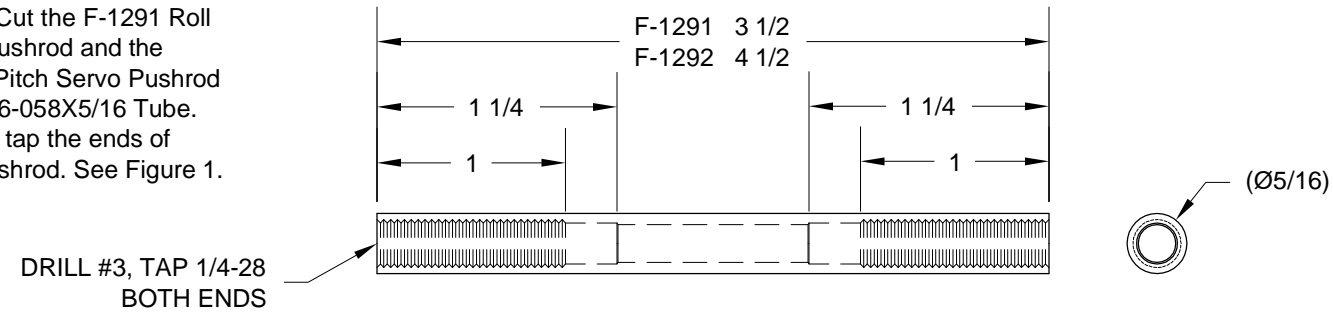

FIGURE 1: MAKING THE PUSHROD TUBES
Step 1: Cut the F-1291 Roll Servo Pushrod and the F-1292 Pitch Servo Pushrod from AT6-058X5/16 Tube. Drill and tap the ends of each pushrod. See Figure 1.